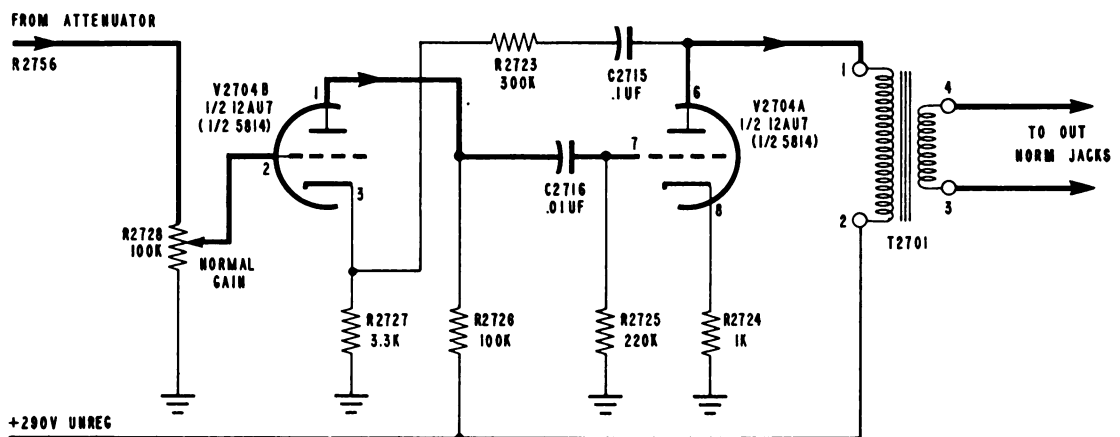

Figure 2-22. Schematic Diagram of Normal Line Amplifier
d. **NORMAL AMPLIFIER CIRCUIT.** - Figure 2-22 shows a schematic diagram of the normal line amplifier of the Electronic Frequency Converter CV-244/FCC-3. This amplifier transmits all signals in the frequency spectrum of 382.5 cycles to 3315 cycles directly through